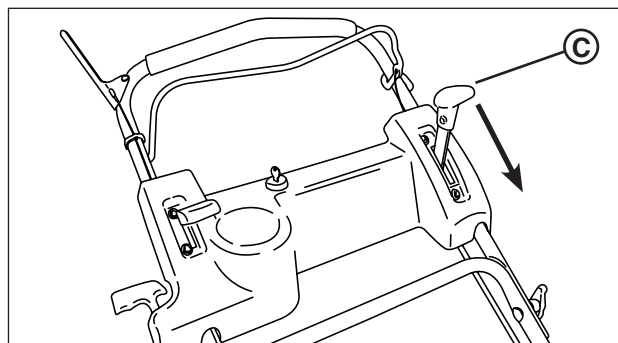

Figure 26: The ground speed control
1. Move the ground speed control (**A, Figure 26**) into the 'fast' position.